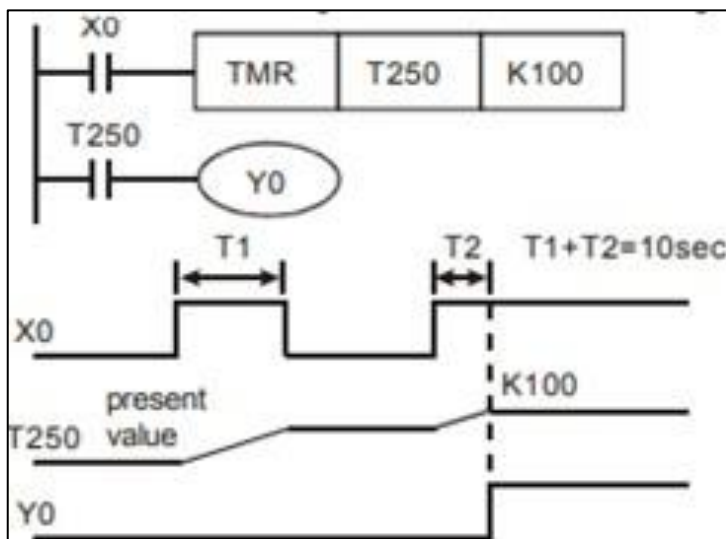

Fig.7 Accumulative timer using Programmable Logic Controller
1. Analyze the results of accumulative timer operation for fig.7 using ladder diagram in terms of concepts.